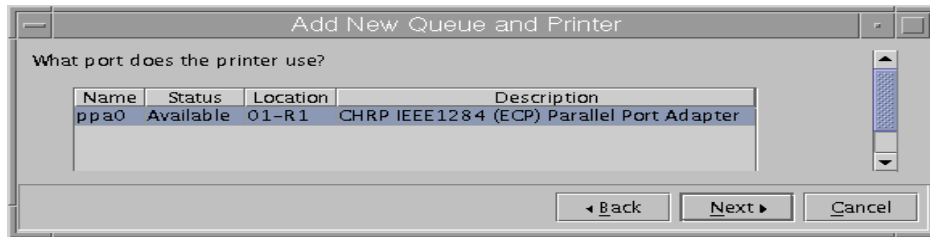

Figure 31. Selecting a available port
10. Select **ppa0** for the available port and location and click **Next**, as shown in Figure 31.